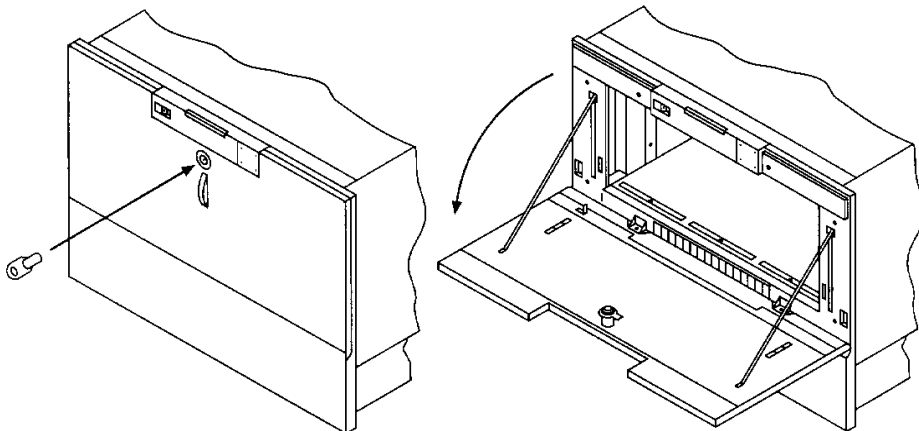

Figure 3-6. Opening the Front Access Door
6. Open the access door by pulling the top of the door outward. (Refer to Figure 3-6.)